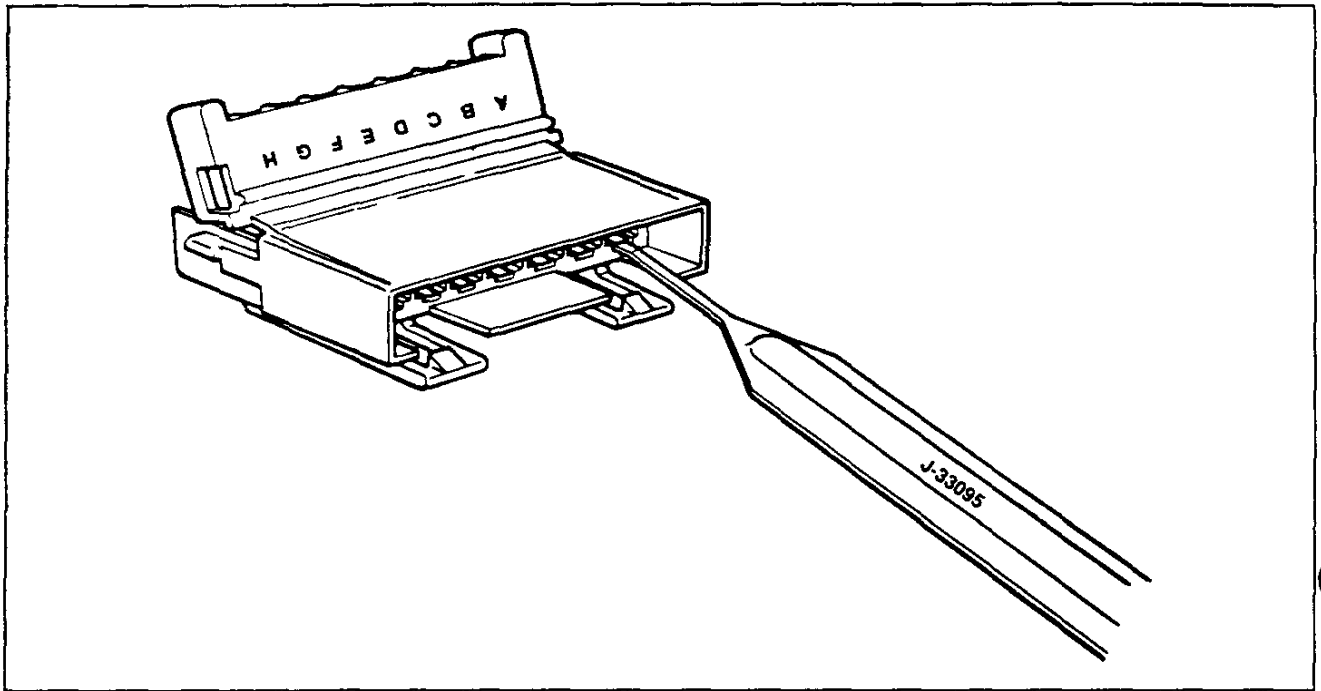

Figure 49
3. Insert removal tool J33095 (Kent-Moore) into the small hole at the bottom of the terminal cavity as shown in (Fig. 49).